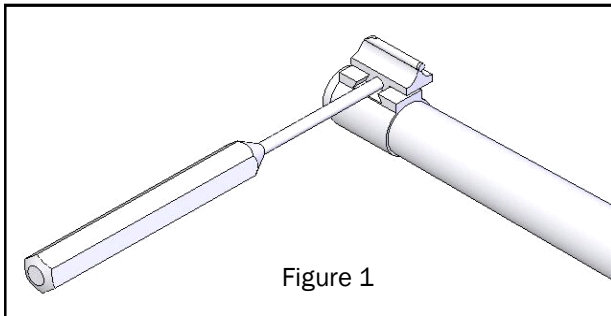

Figure 1
4. Use a brass punch to tap on the base of the front sight. Drive the front sight blade out of the dovetail slot from left to right. (See Figure 1)